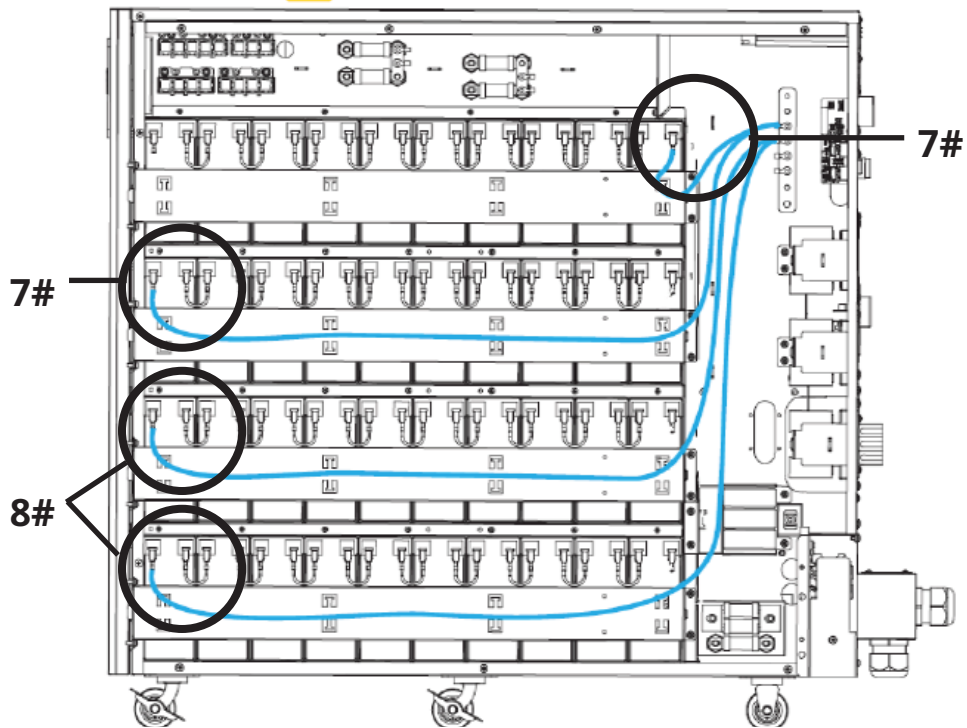

Figure 3-15: Connect Right Battery Packs to the Copper Plate (N-Pole).
10. Connect the four battery packs to the copper plate (N-pole) (Figure 3-15).